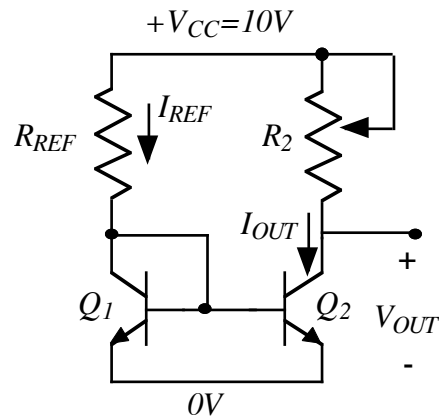

Figure 2
- Using the same BJT transistors as in (b) construct the circuit shown in Fig.2, with $R_{REF} = 5\text{k}\Omega$ and variable V_{OUT} . Varying the V_{OUT} voltage from 0 to 10V measure the I_{OUT} vs. V_{OUT} characteristics of the current mirror. From the plot, find the V_{MIN} and the small-signal output resistance.